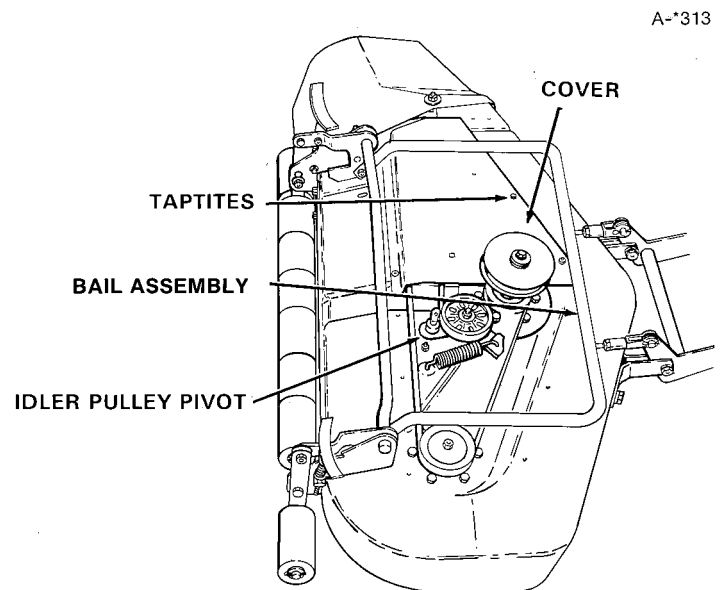

Figure 19. Lubricate Idler Pulley Pivot (Yearly Care)
4. **Yearly.** At least once a year check and lubricate mower idler pulley pivot (see figure 19).
5. **Yearly.** At least once a year, and more often under heavy use and immediately after striking any hard object, clean, sharpen, and balance the mower blades. See figure 19.